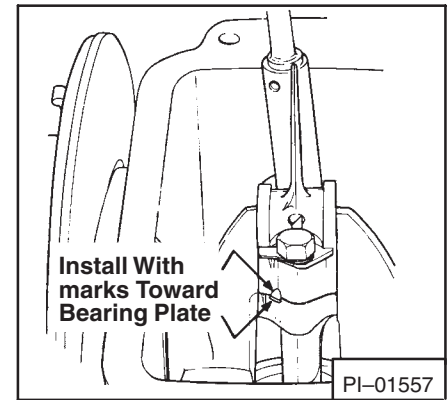

Fig. 56 Installing Connecting Rod Cap Screws
- b. It is important that marks on connecting rod and cap line up and face flywheel end of engine (Fig. 56).